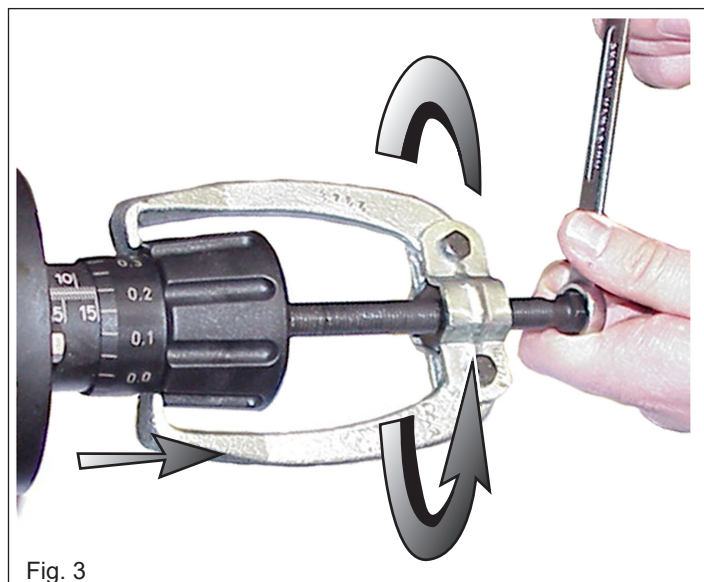

Fig. 3
4. Force the protecting cover (72) from the hand wheel (21) using a small screwdriver. Remove the hexagon head screw (22) and the disk (75).
Pull the hand wheel (21) from the adjustment unit (7) using the claw pulling device (see fig. 3).
5. Loosen the screws (33). Make sure not to lose the seal rings (34)! Pull the scale housing (24) off via the adjustment unit (7).
6. Remove the O-ring (48) and the hexagon head screws (29). Using the plunger (502), hold the connecting rod (10) tight and pull the adjustment unit (7) out of the drive element housing (1).